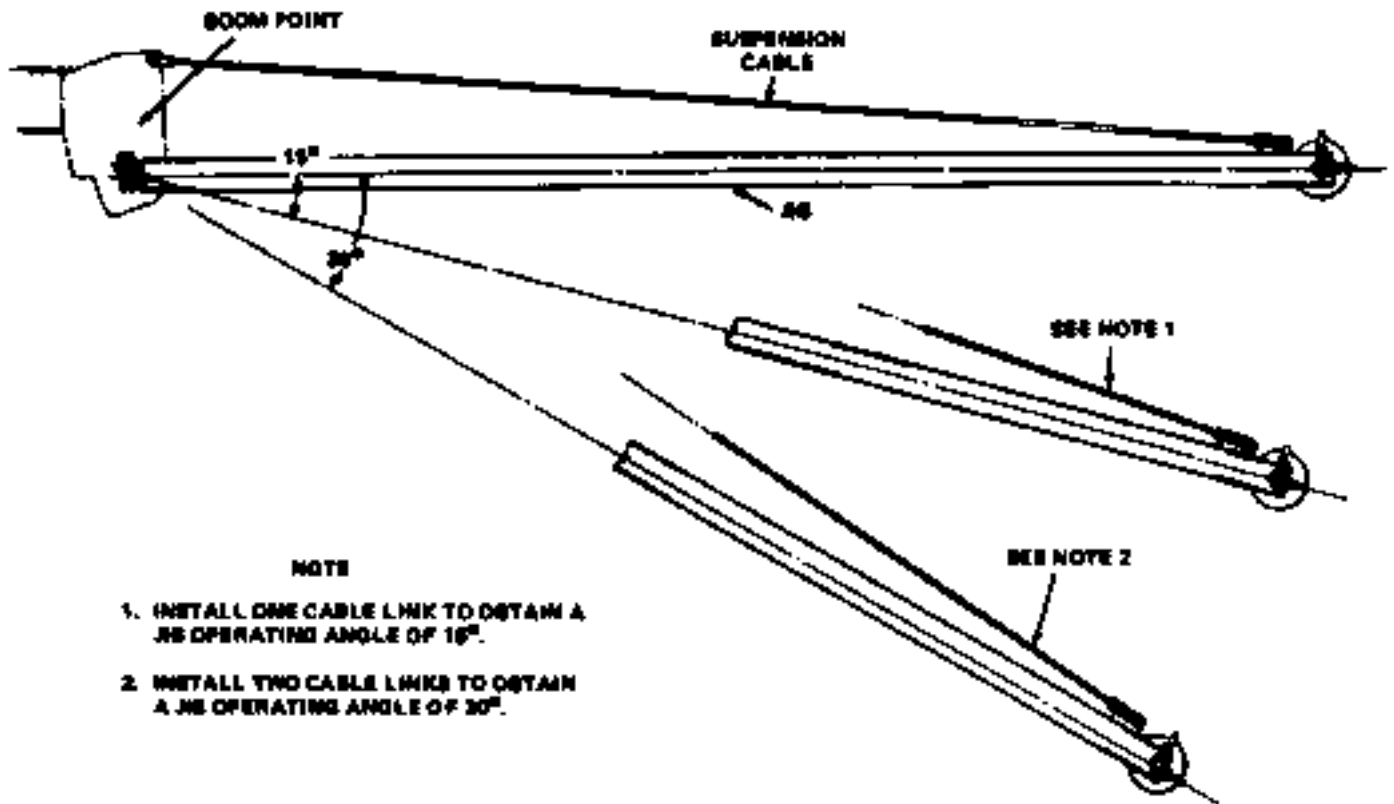

Figure 2-17. Jib Suspension (911J91)
2. Install T-pins (1), spacers (2), and cotter pins (3) to attach the jib to the boom point. Install the T-pin upward from the bottom so that the cotter pin will be on the bottom side of the jib when it is erected.
3. Remove the hook block from the main or auxiliary winch line, and attach the line to becket (4) with a rope socket. Take up the slack in the line with the winch, so that the jib point is supported by the line.
4. Remove capscrews (5), lockwashers (6), retainers (7) and spacers (8). Remove cotter pin (9) and pin (10).
6. Disconnect the winch line from becket (4) and attach it to becket (11). Take up slack in the winch line to raise the jib to the operating position.
7. Attach the jib suspension cable as shown in Figure 2-17 to fix the jib at the required operating angle. The angle at which the jib operates can be varied by increasing or decreasing the length of the suspension cable by means of cable links. The cable links are installed between the main suspension cable and the boom point. Figure 2-17 illustrates the positions at which the jib can operate, and the number of cable links required to obtain the operating angles shown.
8. Remove the winch line from becket (11) and attach the hook block to the line.